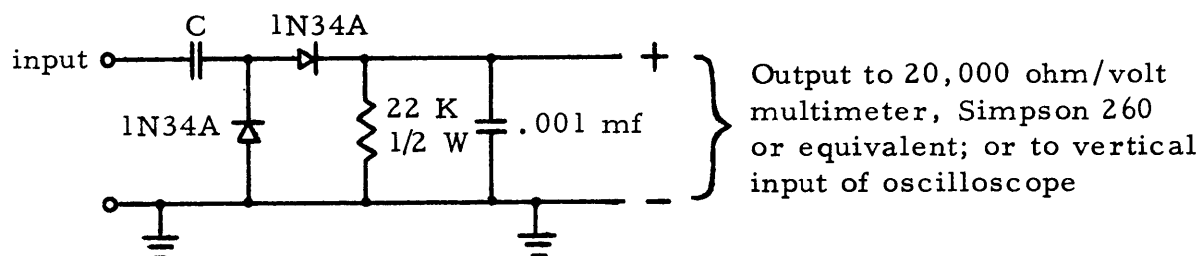

Fig. 5.1 - R-f Detector
Prior to checking alignment of FL8 and FL9 it is necessary to check the VFO output. Two methods of measurement are given. Either a high frequency vacuum tube voltmeter or a 20,000 ohm per volt multimeter is required. If the latter instrument is used, the detector circuit of Fig. 5.1 will be required. Value of C, Fig. 5.1, is 470 mmf.
If the VFO output is correct, connect the r-f VTVM or detector input to the junction of R33 and R34. The value of C, Fig. 5.1, is 3 mmf for this measurement. Keep the leads to the VTVM or detector as short as possible. Replace V12. Tune the MAIN TUNING from one end of its range to the other. The voltage at the junction of R33 and R34 should be 0.6 ± 0.1 volts rms; or 0.3 ± 0.05 volts d-c, as read on the multimeter, throughout the entire 2 mc tuning range.
| (4) R-f Detector | Fig. 5.1, C is 3 mmf |